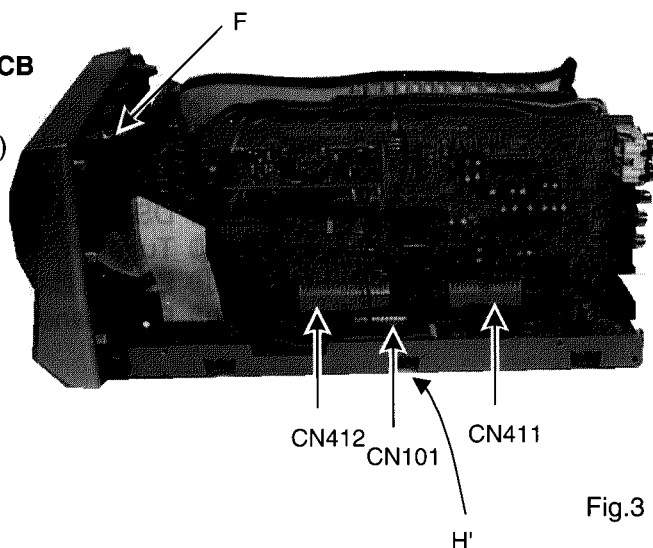

Fig.3
- 2.Remove the screw H'(Fig.3).(Universal type only)
- 2.Remove screws(F)fastening Earth wire of the up side(Fig3).